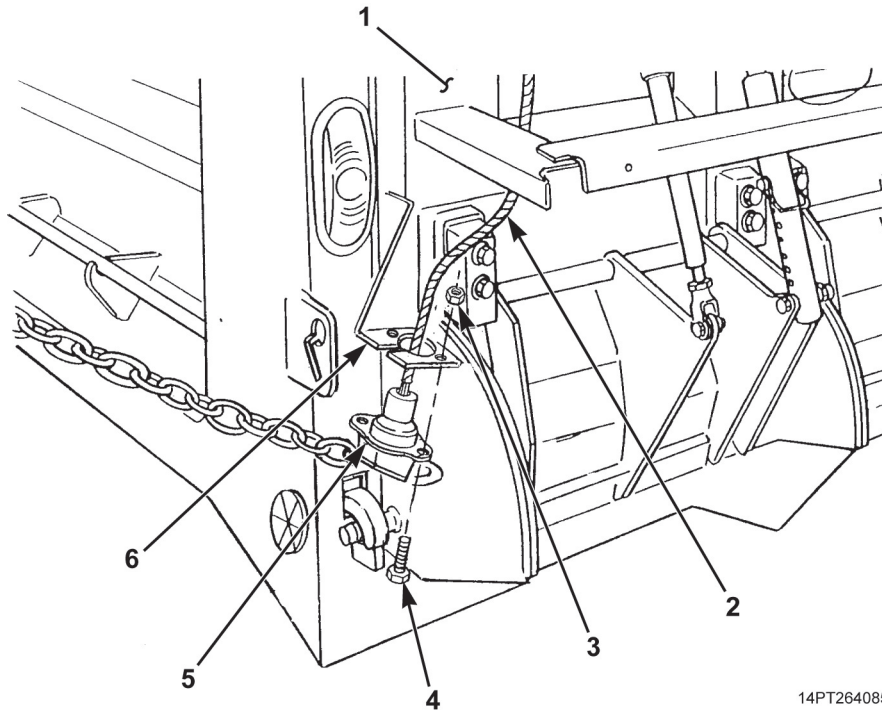

Figure 3. Tailgate Hardware Removal.
3. On each side of MCS tailgate (Figure 3, Item 1), remove two locknuts (Figure 3, Item 3) and screws (Figure 3, Item 4) securing wiring harness receptacle (Figure 3, Item 5) to tailgate weldment (Figure 3, Item 6). Discard locknuts.
4. Remove wiring harness (Figure 3, Item 2) from MCS tailgate (Figure 3, Item 1).